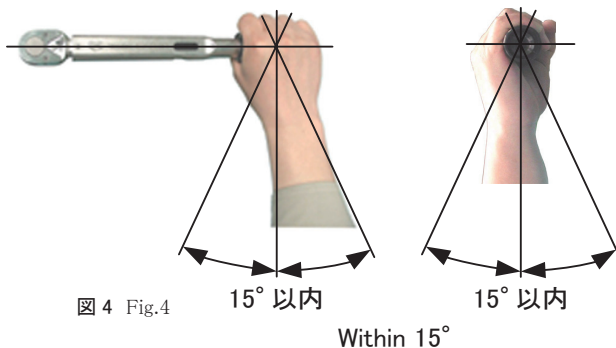

図 4 Fig.4
上下左右とも± 15° 以内にする。(図4)
- The loading direction must be at a right angle to the torque wrench. The tolerance is plus/minus 15 degrees of horizontal or vertical deviation. See fig. 4.